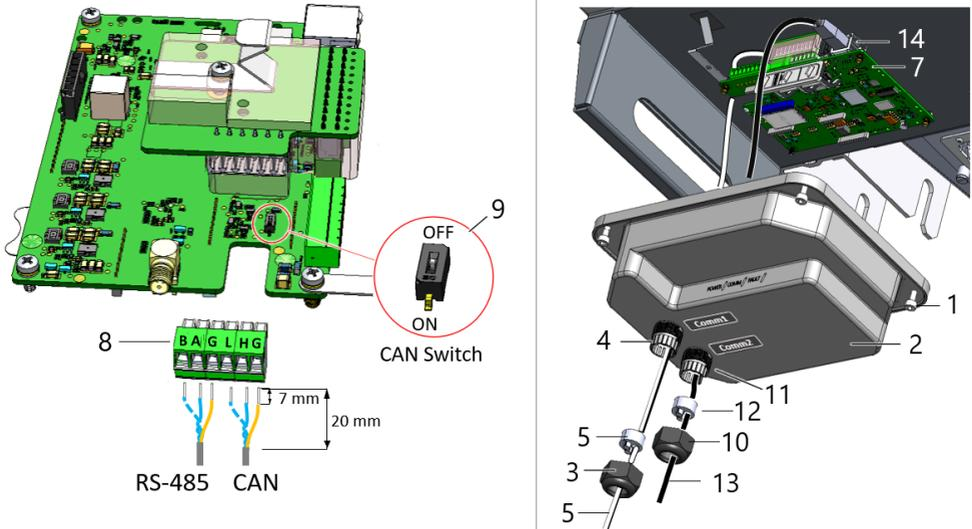

Figure 30: Connecting the communication cables
Make sure the CAN Switch (see item 9 in *Figure 30*) is set to ON position on the first and last inverters on the CAN bus.
4. Release the four Allen screws (1) of the communication compartment cover (2) and remove the cover (see *Figure 30*).
5. Loosen the nut (3) of Comm 1 gland (4) and remove the rubber seal (5).
6. Route the communication cable (6) via one of openings in the rubber seal, through the gland and communication compartment cover (2).
7. Pull down to remove the communication board (7) from the enclosure.
9. Secure the wires to the terminal screws of the connector (8) and plug the connector to the communication board (7). Connect the other end of the cable to the same terminals of the next inverter.
10. Terminate the first and last inverters on the communication bus by moving the CAN Switch (9) to ON. All other inverters on the bus must be switched to OFF.
11. Install the communication board (7) back onto the enclosure.
12. Place the communication compartment cover (2) and secure the four Allen screws (1) to a torque of 3.9 N*m (see *Figure 30*).
13. Place the rubber seal (4) inside the gland nut (3) of Comm1 gland (13) and fasten the nut to a torque of 5.5 N*m.
1. Loosen the nut (10) of Comm2 gland (11) and remove the rubber seal (12) from within (see Figure 30).
2. Route the Ethernet cable (13) through one of openings in the rubber seal, and through the gland, into the enclosure.
4. Plug the Ethernet cable (13) into the LAN port (14).
5. Attach the communication board (7) to the enclosure.
6. Insert the rubber seal (12) into the Comm2 gland (11) and tighten the nut to 5.5 N*m.
7. Place the communication compartment cover (2) and secure the four Allen screws (1) to a torque of 3.9 N*m.